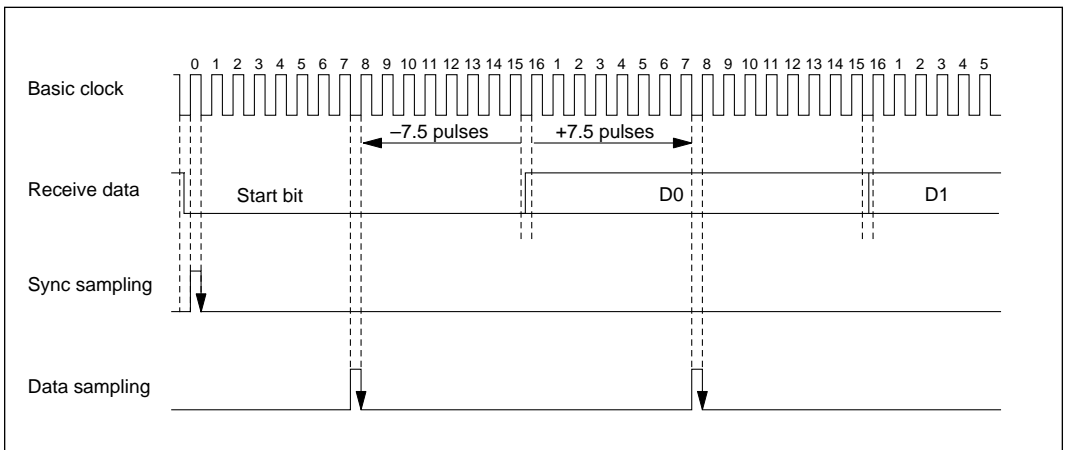

Figure 14-5 Sampling Timing (Asynchronous Mode)
4. Sampling Timing and Receive Margin in Asynchronous Mode: The serial clock used by the SCI in asynchronous mode runs at 16 times the bit rate. The falling edge of the start bit is detected by sampling the RXD input on the falling edge of this clock. After the start bit is detected, each bit of receive data in the frame (including the start bit, parity bit, and stop bit or bits) is sampled on the rising edge of the serial clock pulse at the center of the bit. See figure 14-5.